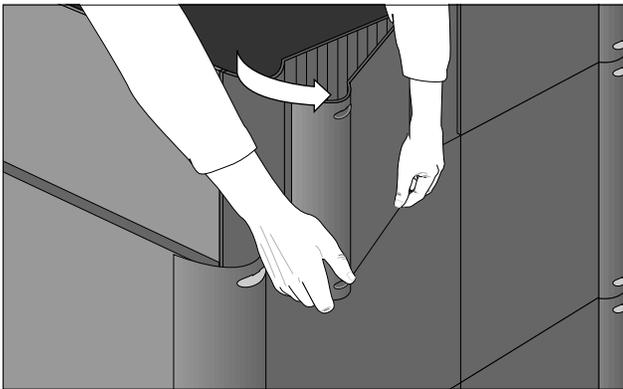

Figure 5. Removing the plastic side covers
- c. Using one hand, lift the plastic cover from the curved edge and, using your other hand to hold the bottom edge of the cover, gently pry it off (Figure 5).